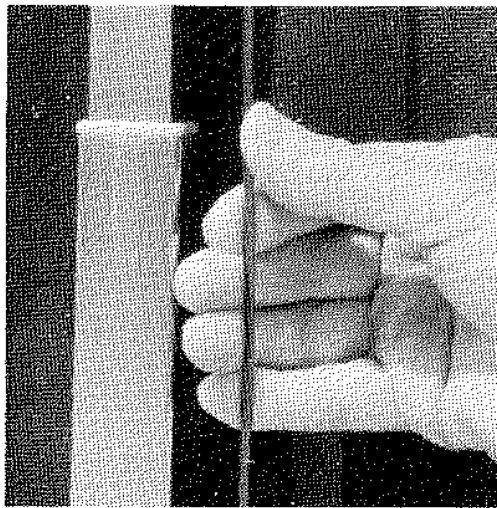

Fig. 3
3. Continue cranking until the limit cable is almost tight. The red or gray limit cable is located directly above the crank position. Fig. 3
8. Now, complete raising roof until red or gray limit cable is snug. **DO NOT OVERTIGHTEN.** Fig 3